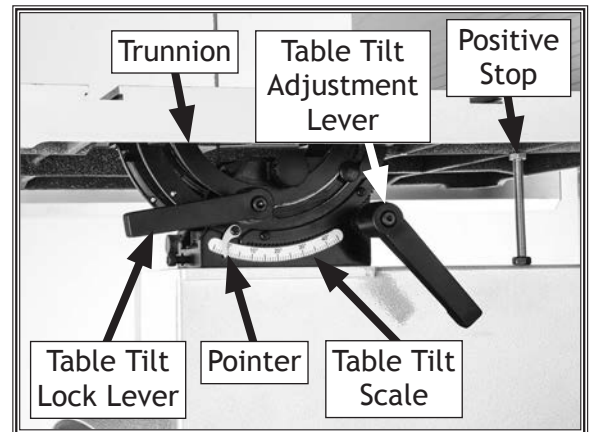

Figure 74. Table tilt controls.
The table can be tilted from 5° left-45° right to make beveled cuts. A table tilt scale with pointer is provided on the trunnion, and a hex bolt serves as a positive stop for quickly returning the table back to 0° from a right-tilt setting (see **Figure 74**).
2. Loosen table tilt lock lever (see **Figure 74**).